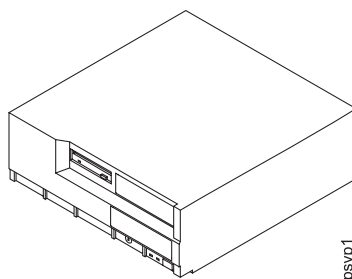
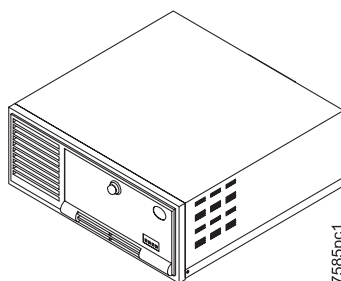
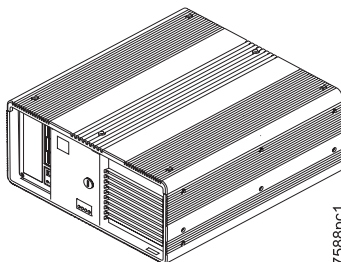
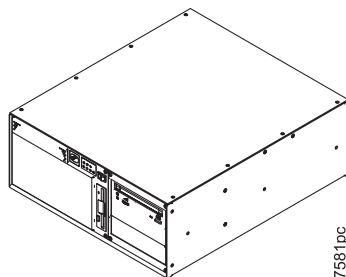

Figure 1. PS/ValuePoint System Unit
Figure 2. Model 7585 Industrial Computer System Unit
Figure 3. Model 7588 Industrial Computer System Unit
Figure 4. Model 7581 Industrial Computer System Unit
- ___ 1. **Verify which Library Manager is currently installed** by referring to Figure 1 (*PS/ValuePoint System Unit*), Figure 2 (*IBM Model 7585 Industrial Computer System Unit*), Figure 3 (*IBM Model 7588 Industrial Computer System Unit*), and Figure 4 on page 10 (*IBM Model 7581 Industrial Computer System Unit*).
Replaces the existing Library Manager (within the 3494 Model L10, L12 or L14 control unit, or HA1 High Availability option right service bay frame) with the *latest production practice level* of the *IBM Model 7581 Industrial Computer System Unit*. See Figure 4.